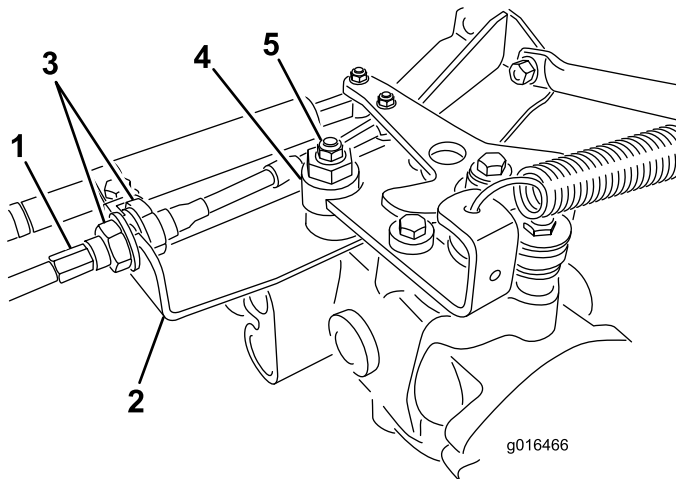

Figure 43
- A. Loosen both jam nuts securing the traction control cable to the bulkhead on the hydrostat (Figure 43). Make sure the jam nuts are loosened equally and sufficiently to allow adjustment.
- B. Loosen the nut securing the eccentric to the top of the hydrostat (Figure 43).
adjustment (Figure 43). Verify the adjustment with the throttle in the Slow and Fast position.
- E. From each side of the bulkhead, tighten the locknuts **evenly**, securing the traction cable to the bulkhead (Figure 43). Do not twist the cable.